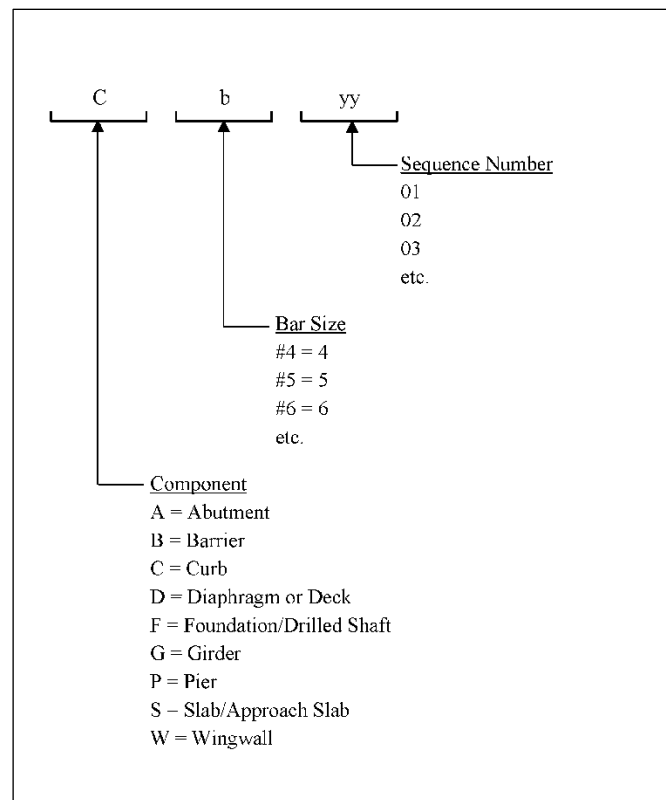

Figure 5-1
7. Use the reinforcing steel identification convention shown in Figure 5-1. Start the numerical sequence at “01” with no gaps in the numerical order. For example, the first #4 reinforcing bar for an abutment would be labeled “A401”.